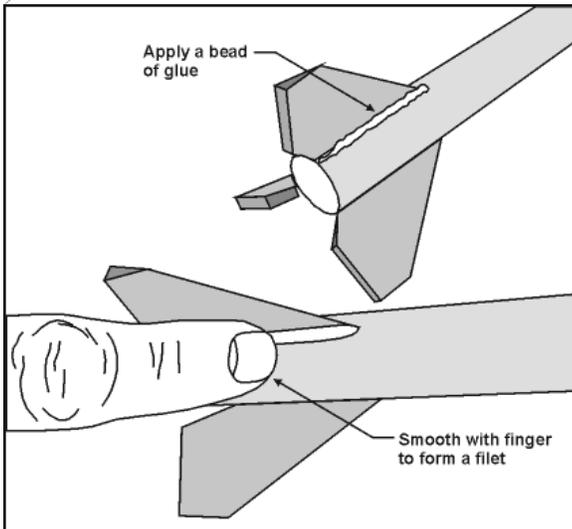

Figure 16
- After the Fins have thoroughly dried, apply a bead of glue on each side of the fin, at the fin/tube joint. Smooth this bead of glue with your finger to form a strong fillet of glue, as shown in **Figure 16**.